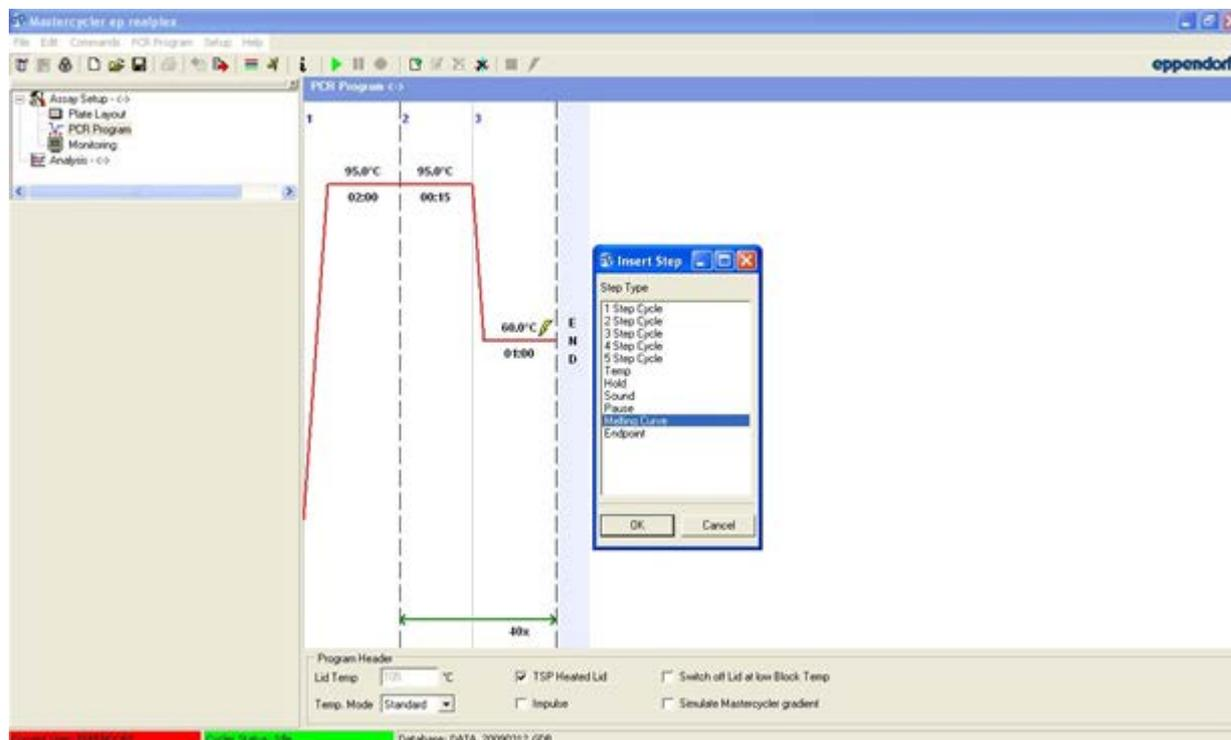

Figure 6. Adding the Melting Curve.
11. Right-click on END. Select "Add Step", then select "Melting Curve" and click OK (Figure 6).